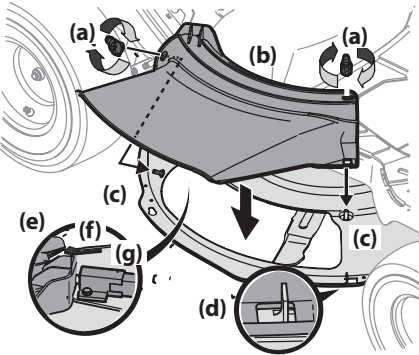

Figure 8
1. Remove the wing knobs (a) installed on the mowing deck and retain for later installation. See Figure 8.
2. Install the deck chute (b) into the discharge opening on the deck. The rear of the chute should be under the tab (f) on the rear deck bracket (g). The studs (c) on the deck surface will fit through the holes on the upper portion of the deck chute. The small tab (d) on the deck lip area will fit through the square cutout on the lower portion of the deck chute. See Figure 8.